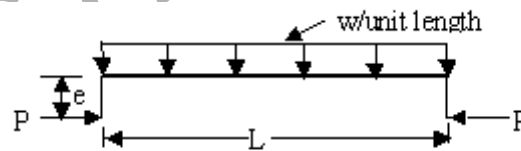

Figure 5b
- (b) A straight uniform column of length 'L' and bending stiffness 'EI' is subjected to uniform lateral loading w/unit length shown in fig5b. The end attachments do not restrict rotation of the column ends. The longitudinal; compressive force 'P' has eccentricity 'e' from the centroids of the end sections and is placed so as to oppose the bending effect of the lateral loading. The eccentricity e can be varied and is to be adjusted to the value which, for given values of P and w, will result in the least maximum bending moment of the column. Show that $e = (w/Pa^2) \tan^2 aL/4$ where $a = P/EI$. [6+10]